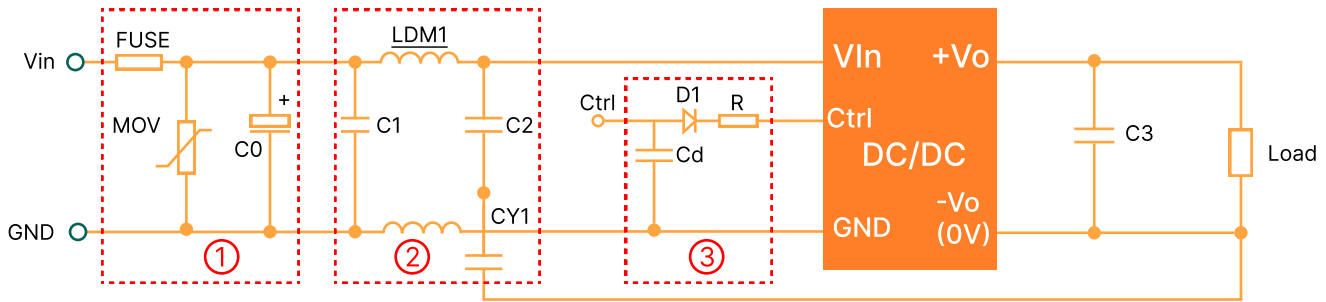

Figure 2: EMC Typical Recommended Circuits
Radiation disturbance	CISPR32/EN55032 CLASS B (The recommended circuit is shown in Figure 2)
C3	Refer to the Cout in Fig.2
2. EMC requirements: For situations with high EMC requirements, a typical EMC recommended circuit is shown in Figure 2.